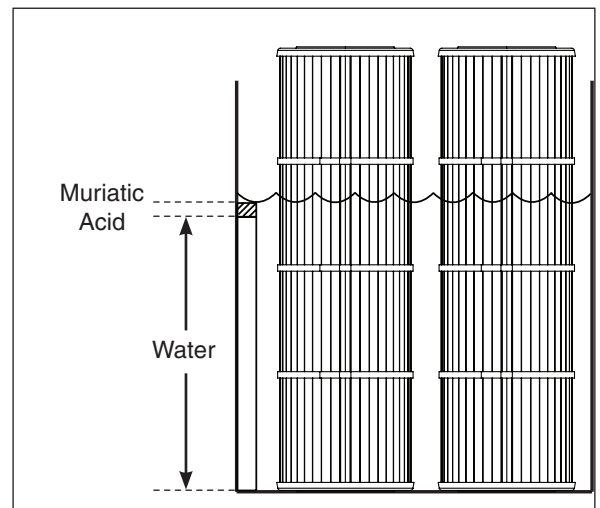

Figure 4: Acid Washing the Filter Elements
1. In a large plastic container, create a solution of one part muriatic acid to twenty parts water. See **Figure 4**.